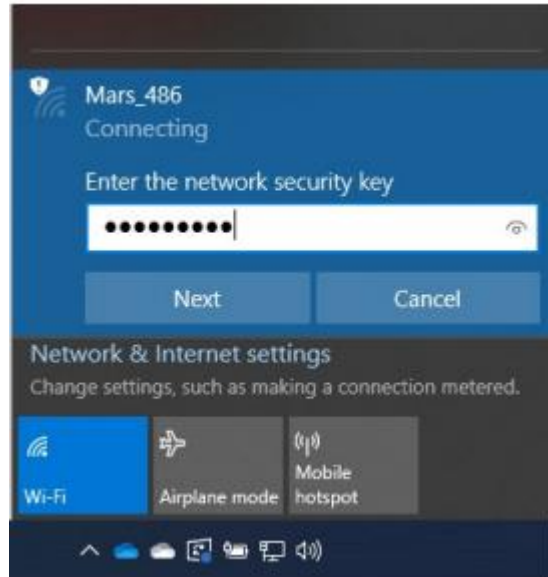

Figure 4-1: Selecting the Mars unit’s Wi-Fi network for configuration
- For example, on a Windows PC you may see a dialog like **Figure 4-1** by accessing the network selection icon in the lower right corner of the screen.